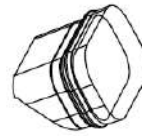

Figure 5-14
- Cover the new prism gasket sleeve onto the prism and ensure that the gasket sleeve is uniform (see Figures 5-14)